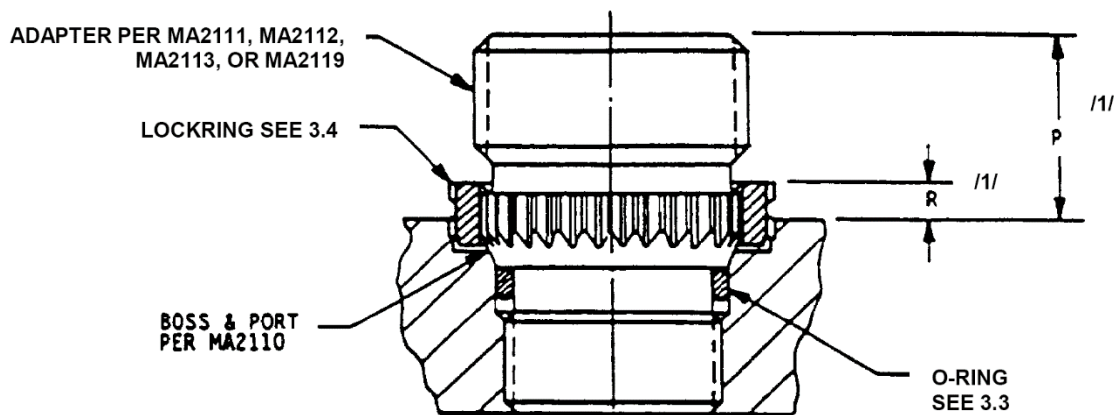

Figure 1 - Installed adapter
Add applicability to MA2119, including addition of Table 1B with associated dimensions and O-ring sizes and installation instructions. Correction of Figures 1 and 3 references. Add user definition requirement if torque values desired are other than those listed in Table 2B. Addition of alternate tooling numbers in Table 2B and addition of individual wrench and drive tool part numbers. Add alternate tool suppliers. Update 5.2.4 to recognize use of other sealants/primers and discourage use of Zinc Chromate primer. Update 5.2.5 for installation torque limits.
3.2 Adapters per MA2111, MA2112, and MA2113 installed per this document into bosses and ports per MA2110 shall have a stand-off per dimension "P" Figure 1 and Table 1A. Adapters per MA2119 shall have a stand-off per dimension "P" Figure 1 and Table 1B.